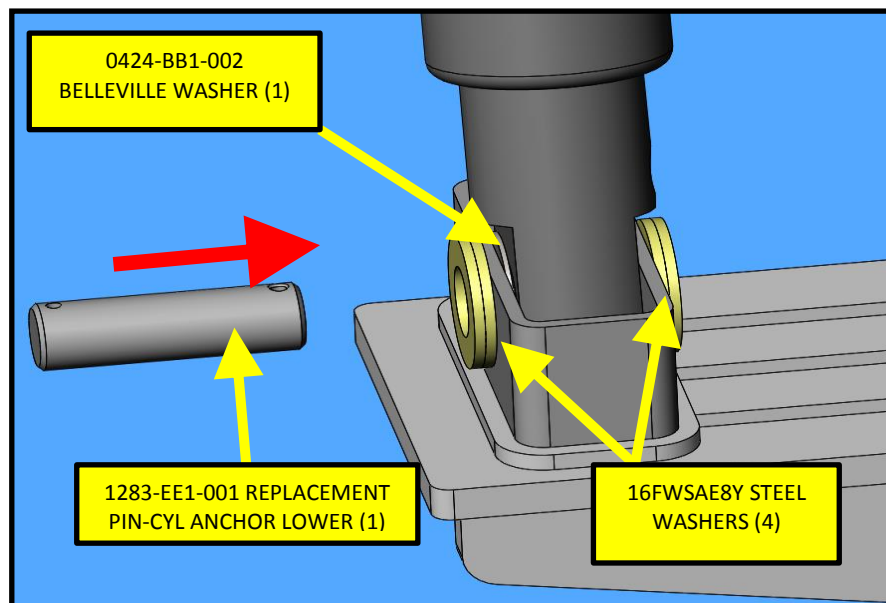
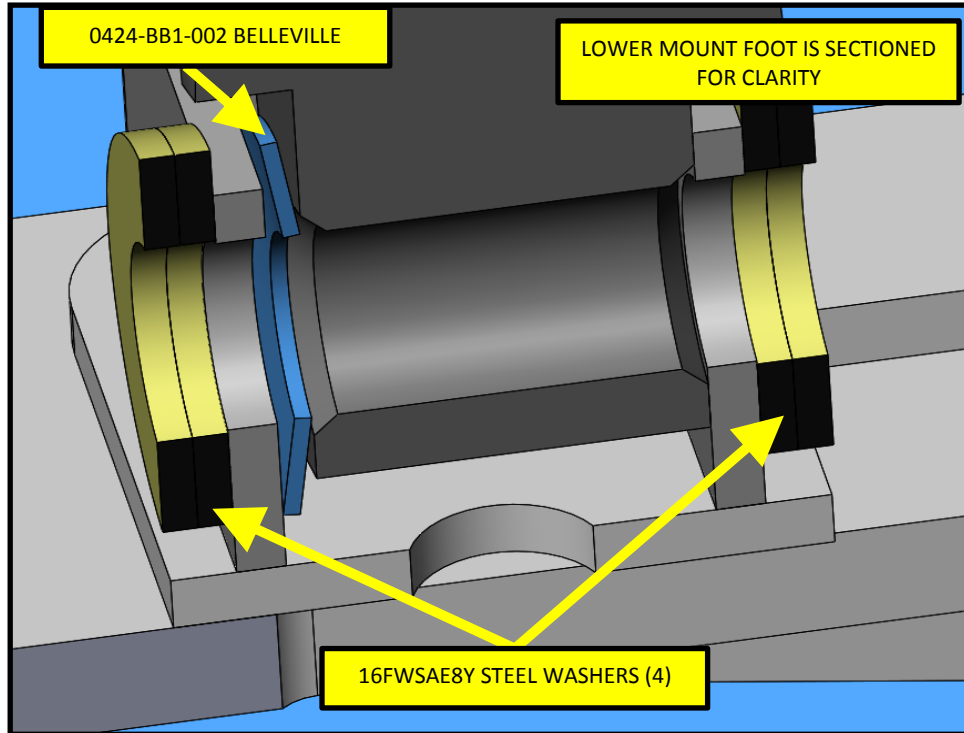

FIG. 5-2
FIG. 6-1
- Place (4) 16FWSAE8Y washers and (1) 0424-BB1-002 Belleville washer, then slide the New 1283-EE1-001 lower pin into location. Insure that the Belleville washer is oriented correctly. Refer to FIG. 5-2 and FIG. 6-1.